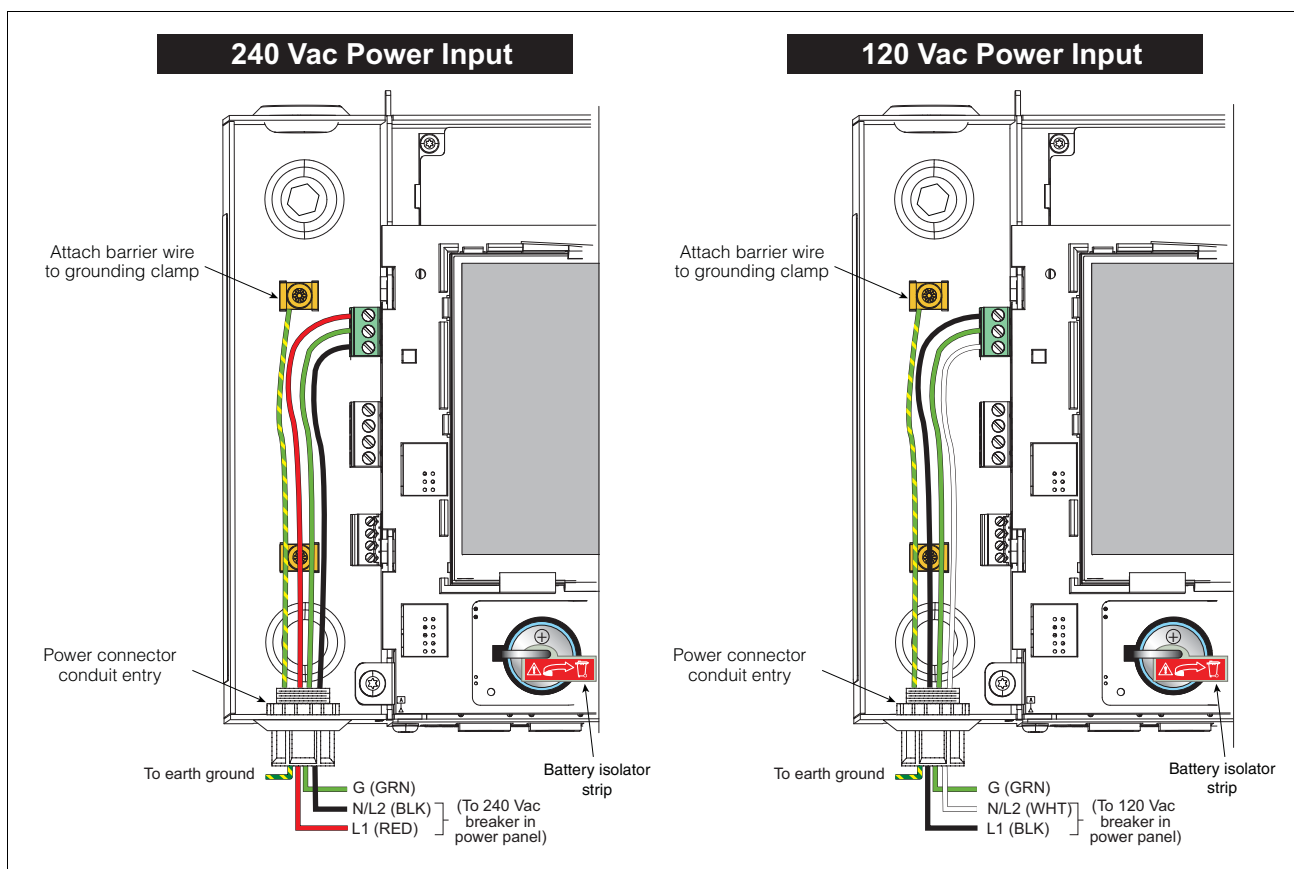

Figure 5. Wiring AC Power to the DL4 Console
2. Connect the input 120 or 240 Vac power wires as shown in Figure 5.
Once the communication devices, etc., are connected to the console, remove and discard the backup battery isolator strip (see Figure 5).